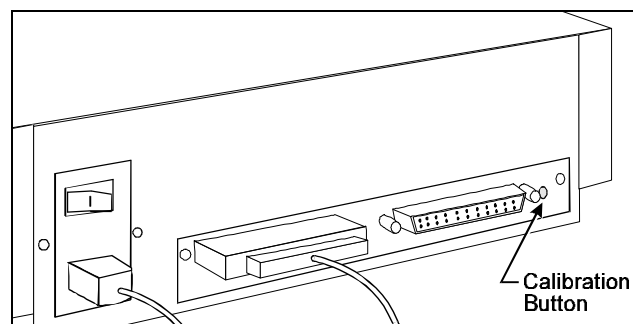

Figure 4-25. Scanner Calibration Button
2. Use a small screwdriver or other pointed object to press and hold the calibration button (Figure 4-25) until the scanner lamp turns on, then release the button.